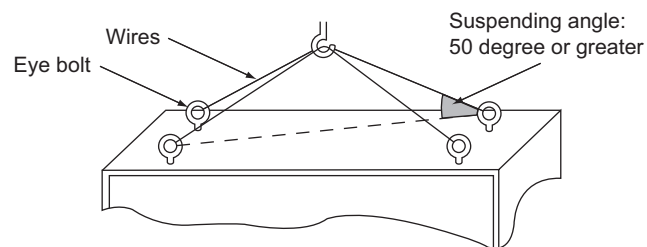

Figure 2.6 State of Suspension with Wires
- Use the wire of a length that ensures a 50 degree or wider suspending angle, as illustrated in *Figure 2.6*. The maximum allowable load of the eye bolts for suspension cannot be guaranteed when the drive is suspended with the wires at an angle less than 50 degrees.
2. Pass wire through the holes of all the four eye bolts (See *Figure 2.6*).